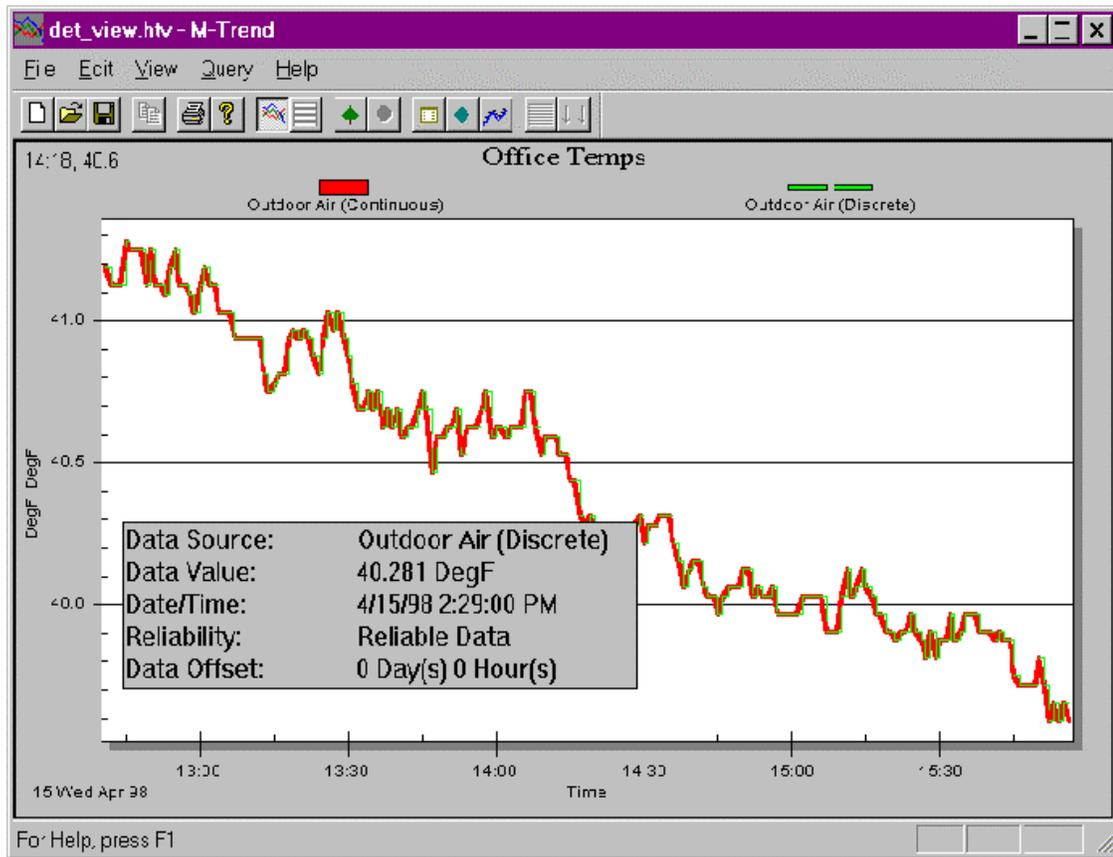

Figure 3-5: Viewing Detailed Sample Information
- Left-click the mouse to display detailed sample information about the point you have selected. See Figure 3-5 for an example of the sample data point information label.